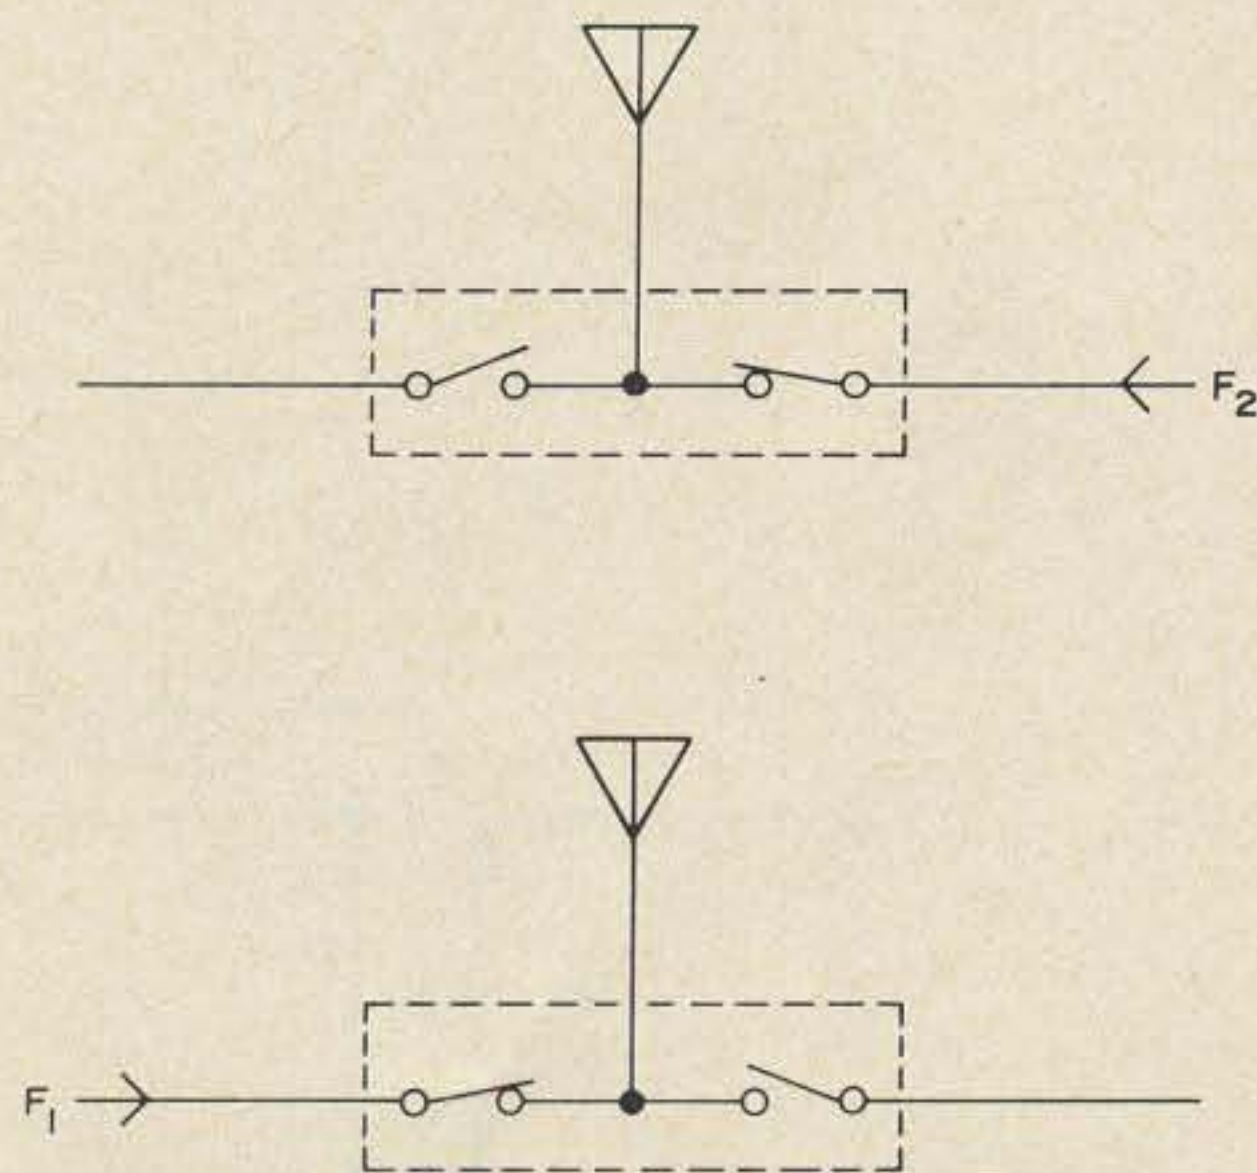
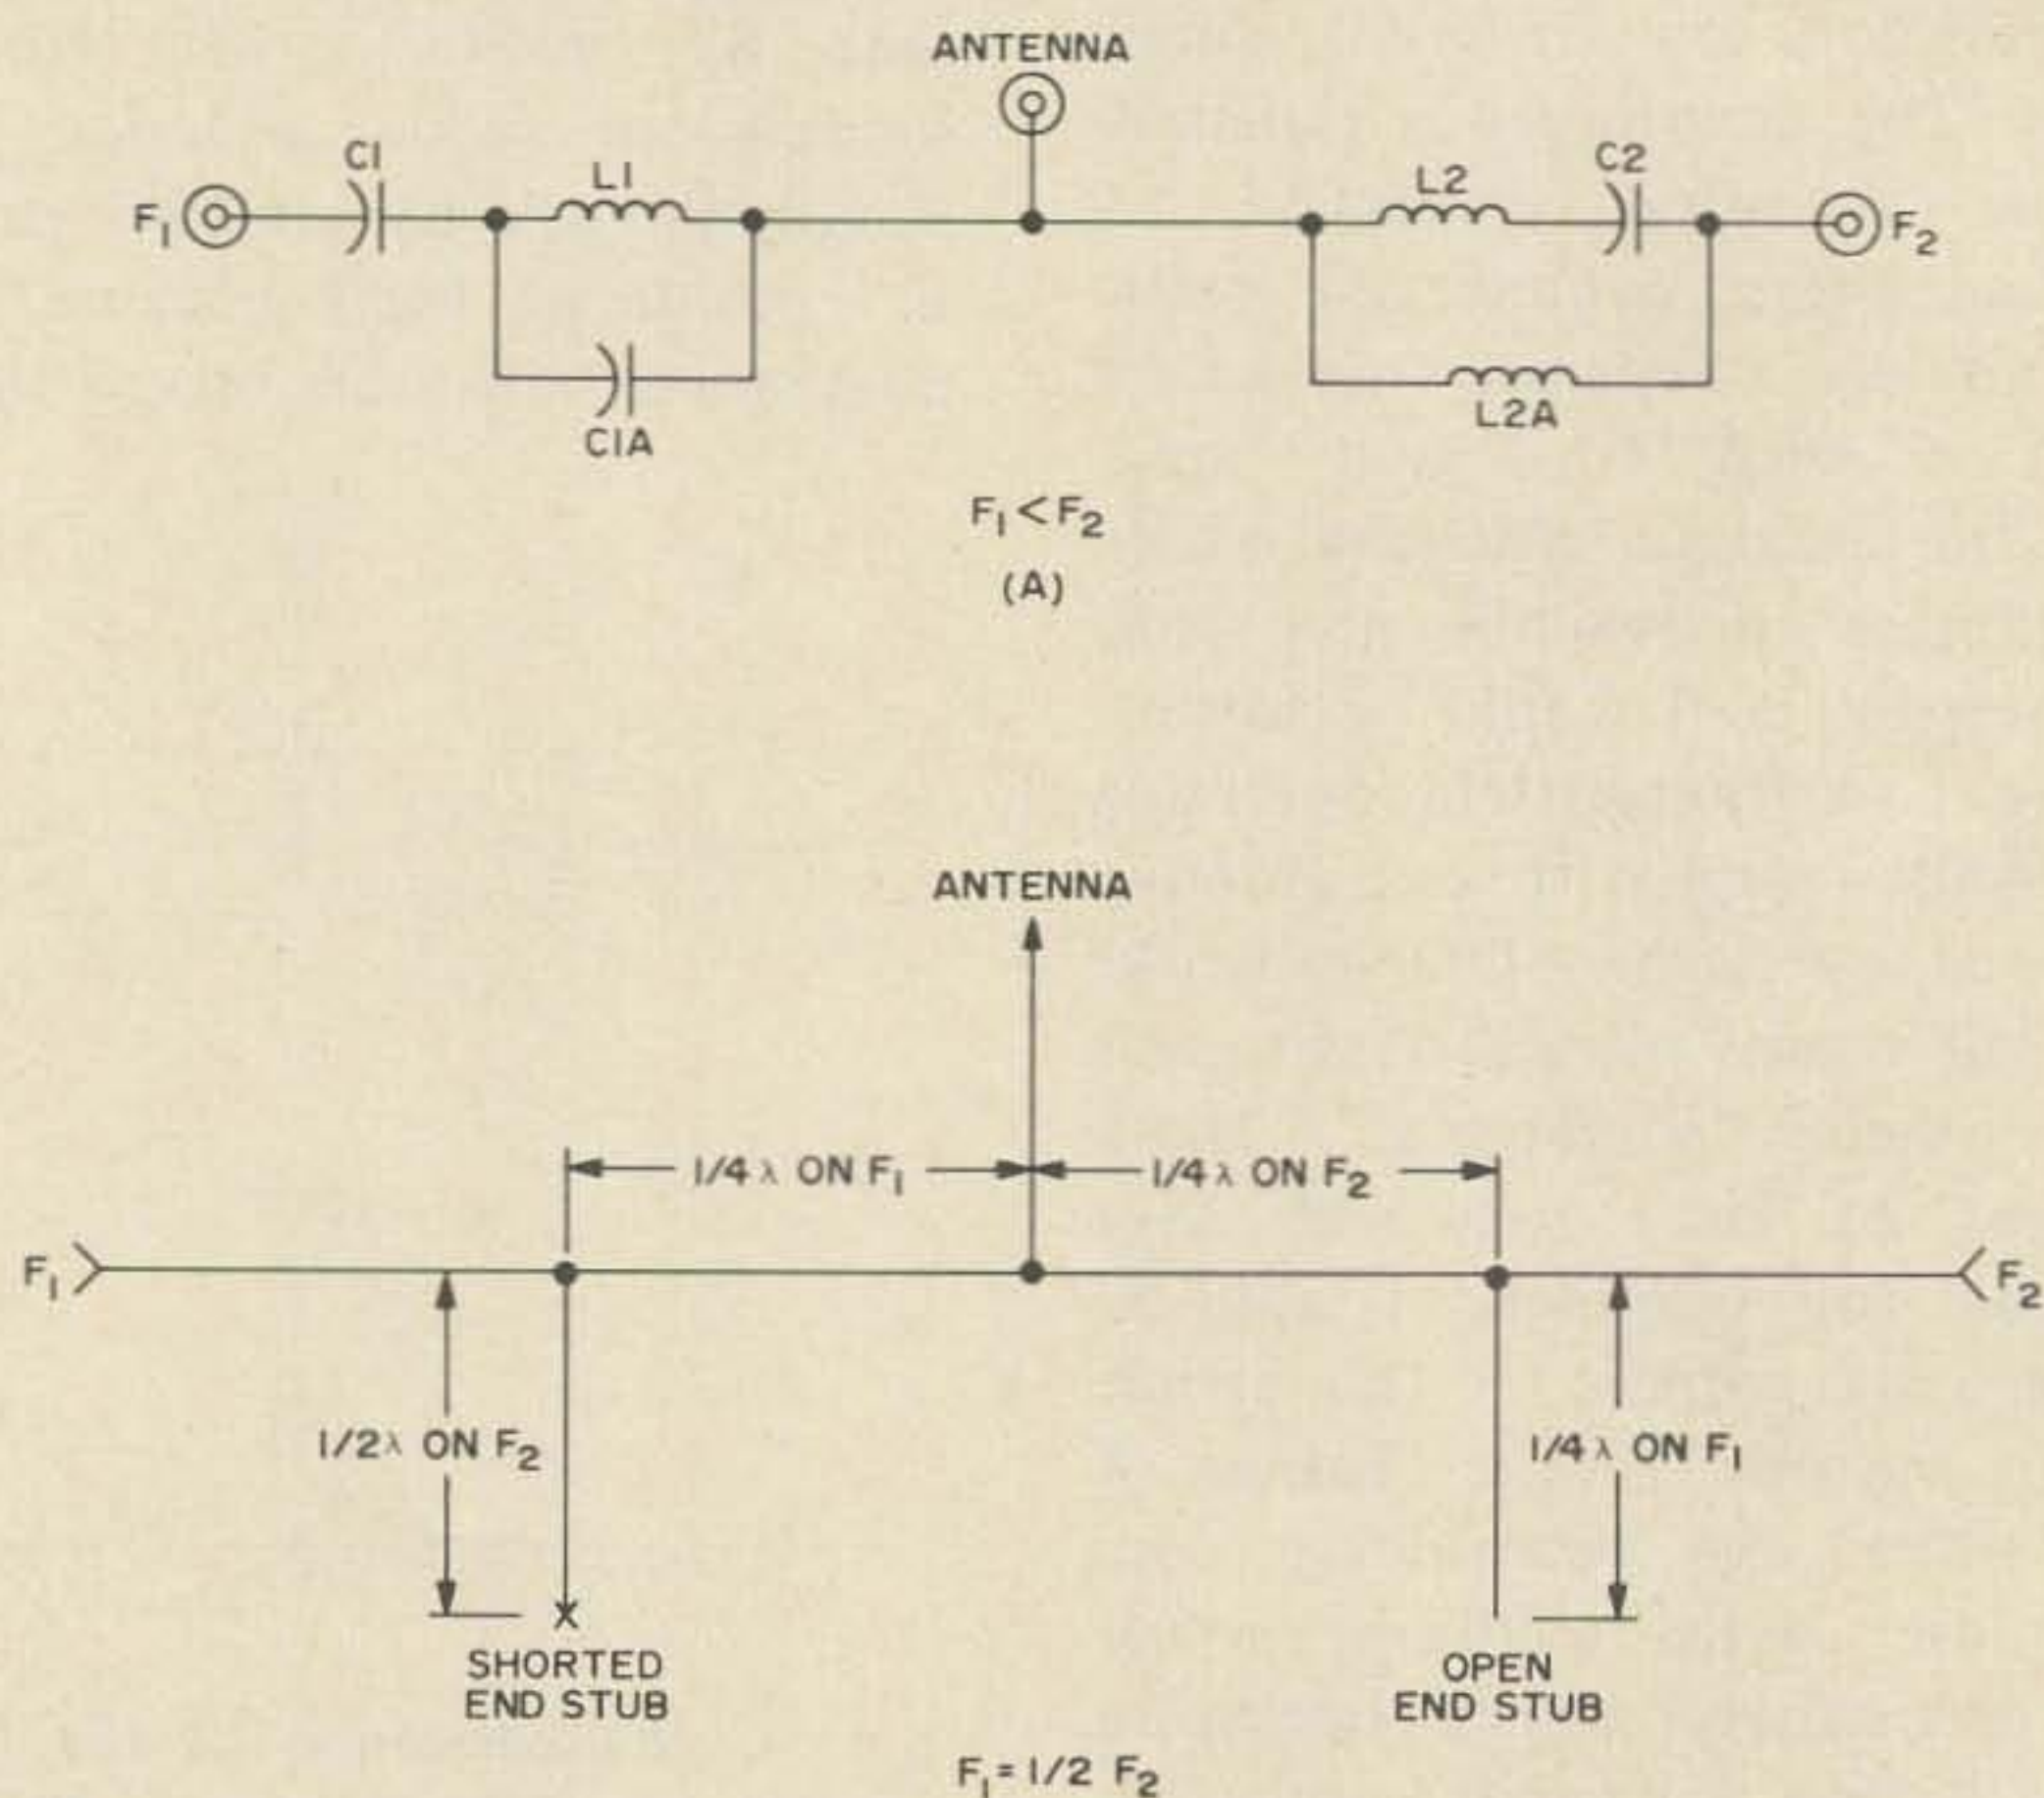

Fig. 1. Representation of the functions of a combiner unit (dotted lines) when either transmitting frequency alone is considered.
Fig. 2. Basic combiner forms discussed in text. Tuned circuit type (A) and stub type (B).
Fig. 1 illustrates the basic functions which a combiner network must perform. The antenna is assumed to be resonant at frequencies F_1 and F_2 (either broadband resonance or a trap-type antenna resonant at two different frequencies). When frequency F_1 is considered as the output of one transmitter, the combiner network must act so the transmission line from the antenna is directly connected to the transmitter, but the transmission line to the
There are a number of practical circuits that can be devised to implement the functions illustrated in Fig. 1. Fig. 2 shows two simple basic approaches — a tuned circuit (A) and a transmission line stub switching arrangement (B). In Fig. 2A, F_1 is assumed to be lower in frequency than F_2 . The frequencies in this case must not necessarily be harmonically related. C_1 and L_1 are chosen so series resonance is produced at F_1 , thus connecting the F_1 transmitter directly to the antenna. C_1A and L_1 form a parallel resonant circuit at F_2 , so the F_2 frequency cannot flow back into the F_1 transmitter. On the other "side" of the combiner, C_2 and L_2 are series resonant at F_2 , thus directly connecting the F_2 transmitter to the antenna. Since F_2 is higher than F_1 , the L_2, C_2 circuit will provide a capacitive reactance at F_1 . This capacitive reactance is utilized together with coil L_2A to form a parallel resonant circuit at F_1 . Thus, the F_1 frequency cannot be coupled into the F_2